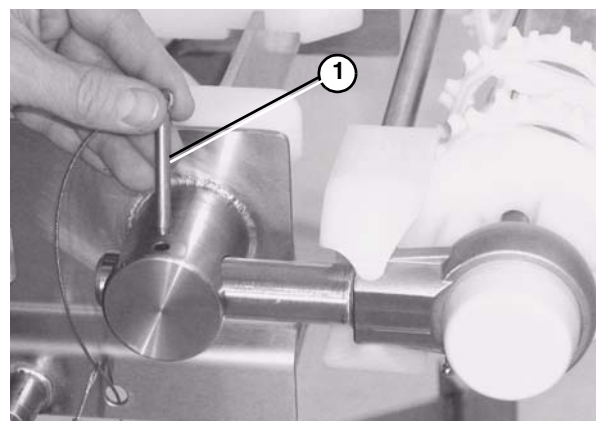

Figure 64
6. Remove the pull pin (**Figure 64, item 1**).
- Remove the pull pins from take up blocks (**Figure 64**).